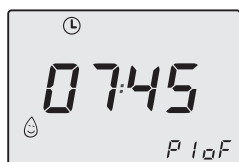

Fig. 2.24
Press key 11 or 12 to select the 4 programmes (P1÷P4) with the related on and off times (P1 on - P1 off, ..., P4 on - P4 off), with minimum intervals of 15 minutes (Fig. 2.24).